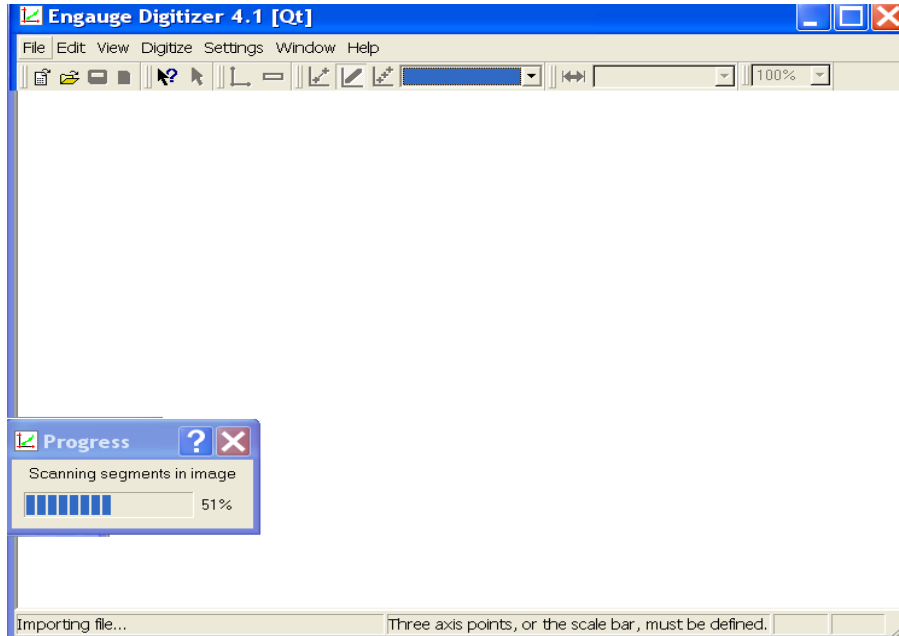

Figure 3, Importing File
c. When the file is importing, it will show Importing file... in the bottom left corner of the panel. And the Panel shows that the scanning of the image file is in the process.(Figure 3)